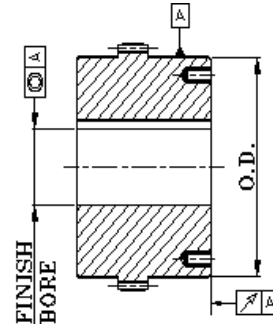

Fig.2 Finish bore
3.1 Finish Bore Instruction (Fig. 2)